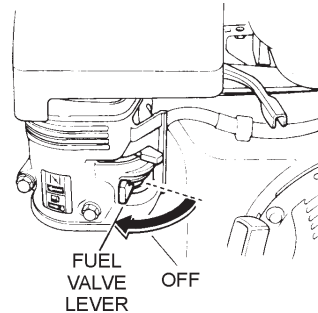

Figure 18. Fuel Valve Lever (OFF)
3. Place the *fuel shut-off lever* (Figure 18) in the “OFF” position.